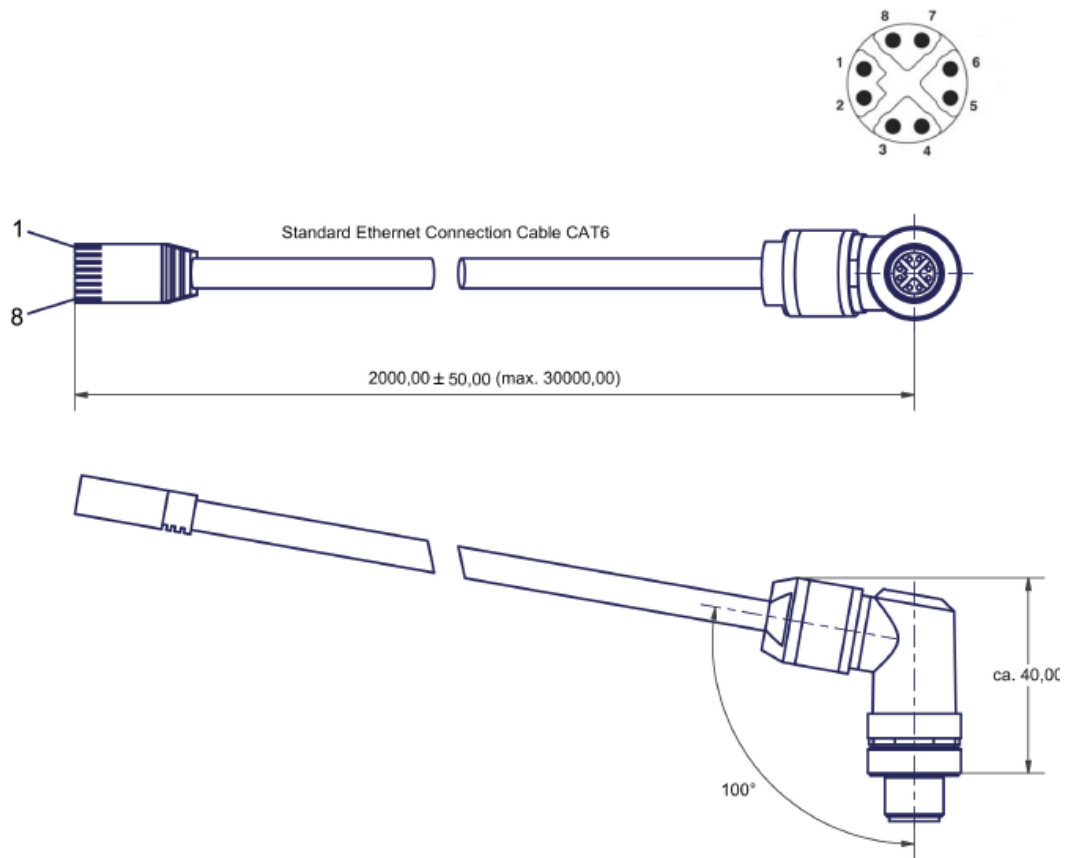

Figure 19: Ethernet and PoE cable
- Figure 19: Ethernet and PoE cable 41